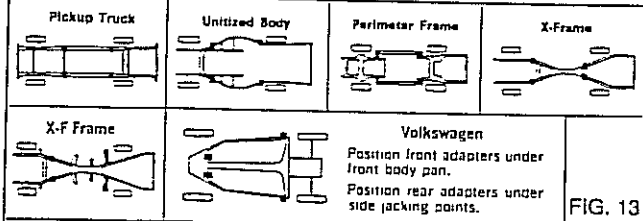

FIG. 13
2. Spot vehicle over lift with left front wheel in proper spotting dish position, Fig. 13. NOTE: Wheel-base of 102" or less should be positioned just short of the first rib.